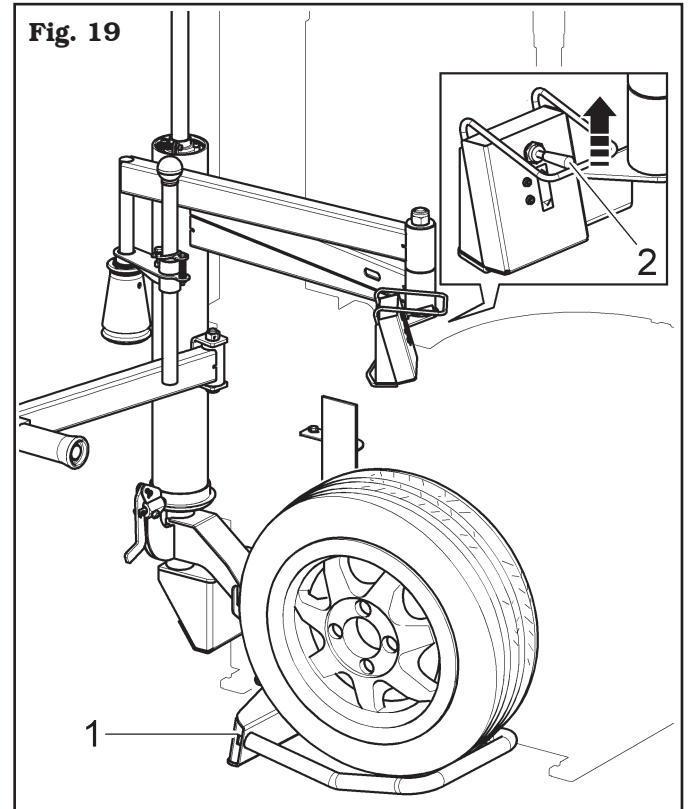

Fig. 19
1 - After having placed the wheel on the lifting device (Fig. 19 ref. 1), lift the control unit's lever (Fig. 19 ref. 2) and bring the wheel to a level where it can be shifted to the mandrel by hand (see Fig. 20).